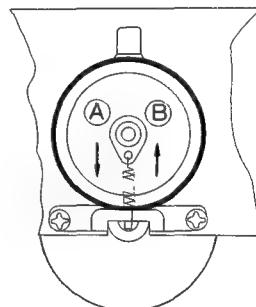

Figure 7-10.
- 2) Move the reel idler toward the center (see Figure 7-10).
- 3) Separate the reel idler from the reel motor pulley by pushing the reel idler with a tension gauge in the direction of (A) (see Figure 7-10).
- 4) Permitting the reel idler to return in the direction of (B) slowly, check that the tension gauge reads  $120 \sim 127$  g when the reel idler just comes into contact with the reel motor.